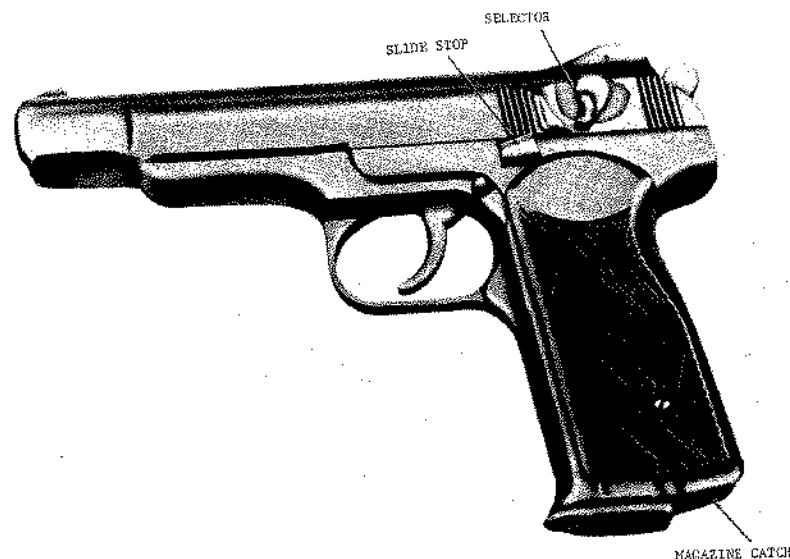

Figure 21. Soviet Stechkin machine pistol (APS).
a. Machine pistols resemble conventional pistols, but have one major distinguishing characteristic—a selective fire option; i.e., they can be fired either automatically or semiautomatically. In addition, these pistols usually have large-capacity magazines and some type of a shoulder brace or stock to aid in accurate long-range firing. The Soviet Stechkin machine pistol (fig 21) was issued in limited numbers, and although now obsolete, it may be in use by special units such as border guards, security police, or in countries given Soviet military aid.
a. Insert the magazine into the pistol until the magazine catch (fig 21) retains the magazine.
d. Position the selector (fig 21) for the type of fire desired—at **OD** for semiautomatic fire, at "ABT" for full-automatic fire, or at **NP** for safe.
f. Remove the magazine by pressing the magazine catch (fig 21) rearward and pulling the magazine out of the pistol. The slide can be closed by pressing the slide stop down or by pulling the slide rearward and releasing it.
d. The extractor holds the fired cartridge case to the face of the slide until the case strikes the ejector. The ejector, an extension on the slide stop (fig 21), expels the fired case from the pistol. The driving spring forces the slide forward; during the forward movement, a cartridge is loaded from the magazine into the barrel.